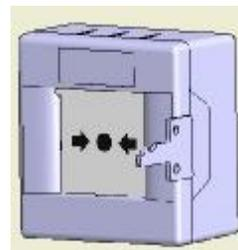

Figure 3 Key use
1. Break out the key and open the cover (see figure 3). Keep the key in a safe place.
1. Open cover with key (see figure 3).